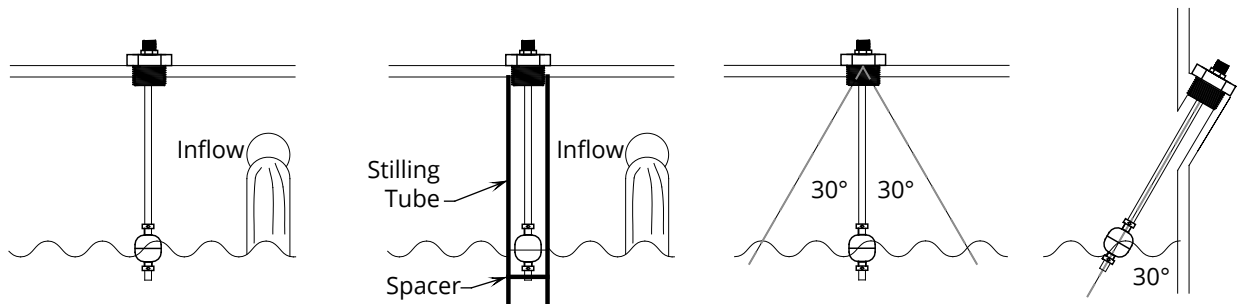

Figure 2.1
- If there is surface wave action, then use a time-delay relay or stilling tube. If a stilling tube is used, drill vent holes in the tube and use a spacer to assure the float has free travel inside the tube (See Figure 2.1).